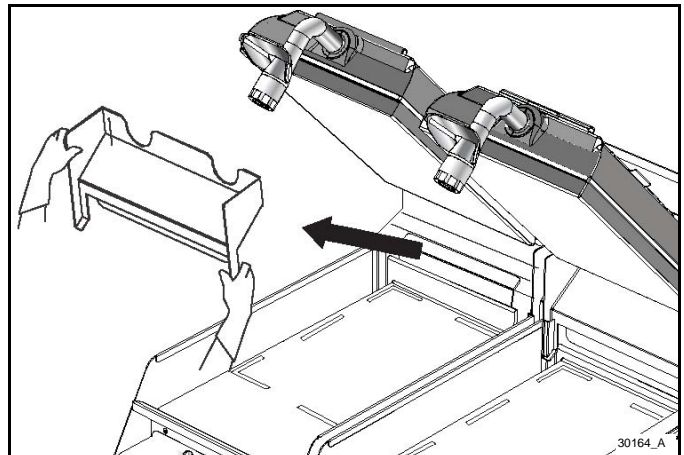

Figure-149
16. Remove the rear grease guard and take it to the three-compartment sink to wash, rinse, and sanitize. See Figure-149.